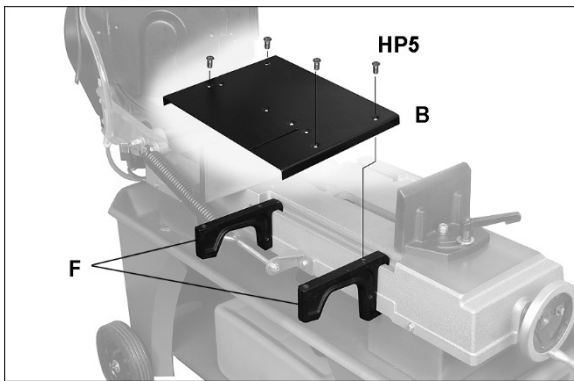

Figure 6-12: Installing Infeed Table (712D only)
9. The table plate (B, Figure 6-12) may be used as cutting table in vertical mode (**models 712 and 712D**) or may be used as infeed table in horizontal mode (**712D only**). To use as infeed table for model 712D, place supports (F) on channel of saw bed as shown and install plate with flat head screws (HP5).